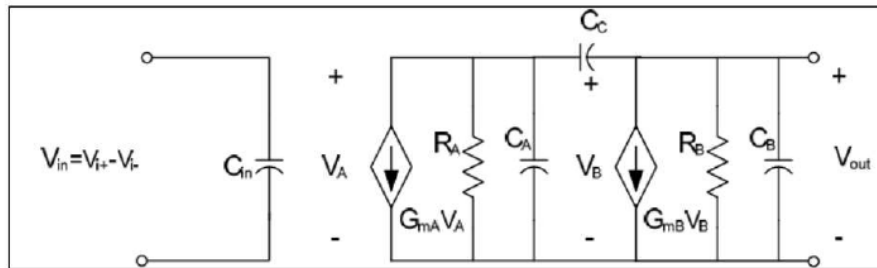

Figure 13. Operational Amplifier Macro-Model with Compensation Capacitor C_C
- Due to the poles being located close together and the large DC gain, the system is unlikely to be stable in unity-gain feedback configuration, therefore some form of compensation is required. The modified macro model shown in **Figure 13** uses capacitor C_C to compensate the frequency response of the opamp by splitting the two poles.